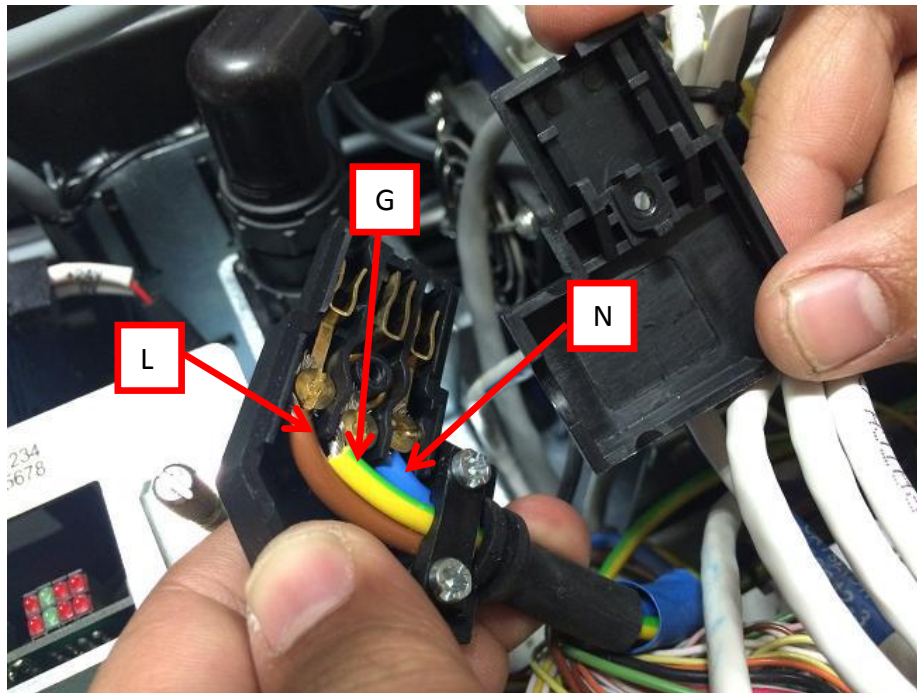

Figure 12
17. Open up insulator cover & identify Life(L),Ground(G) & Neutral(N) as Figure 12.